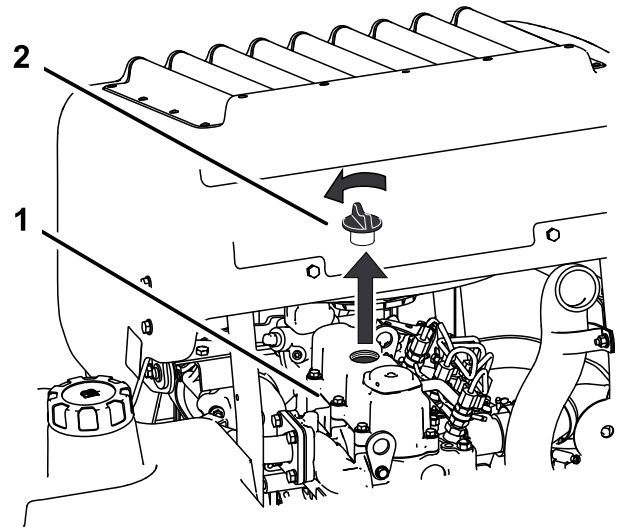

Figure 63
6. Remove the oil filler cap from the top of the engine (Figure 63).
2. Remove the oil-fill cap and dipstick (Figure 63).